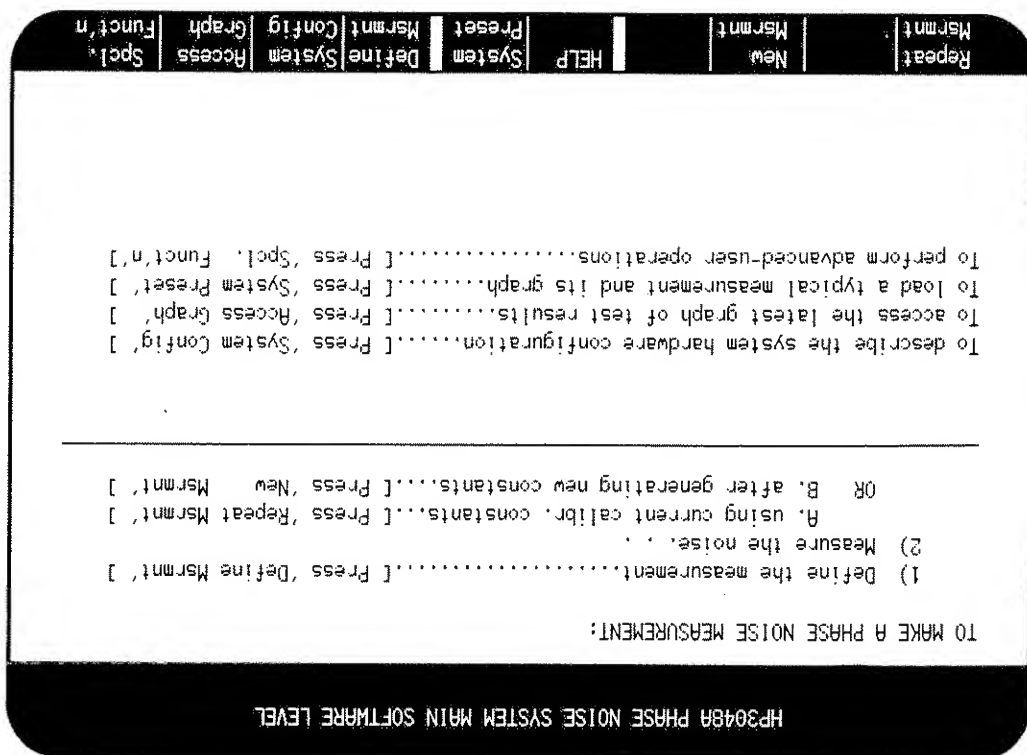

Figure 3-6. Main Software Level Menu
4. Set the HP 3048A to the Main Software Level menu. Refer to figure 3-6.